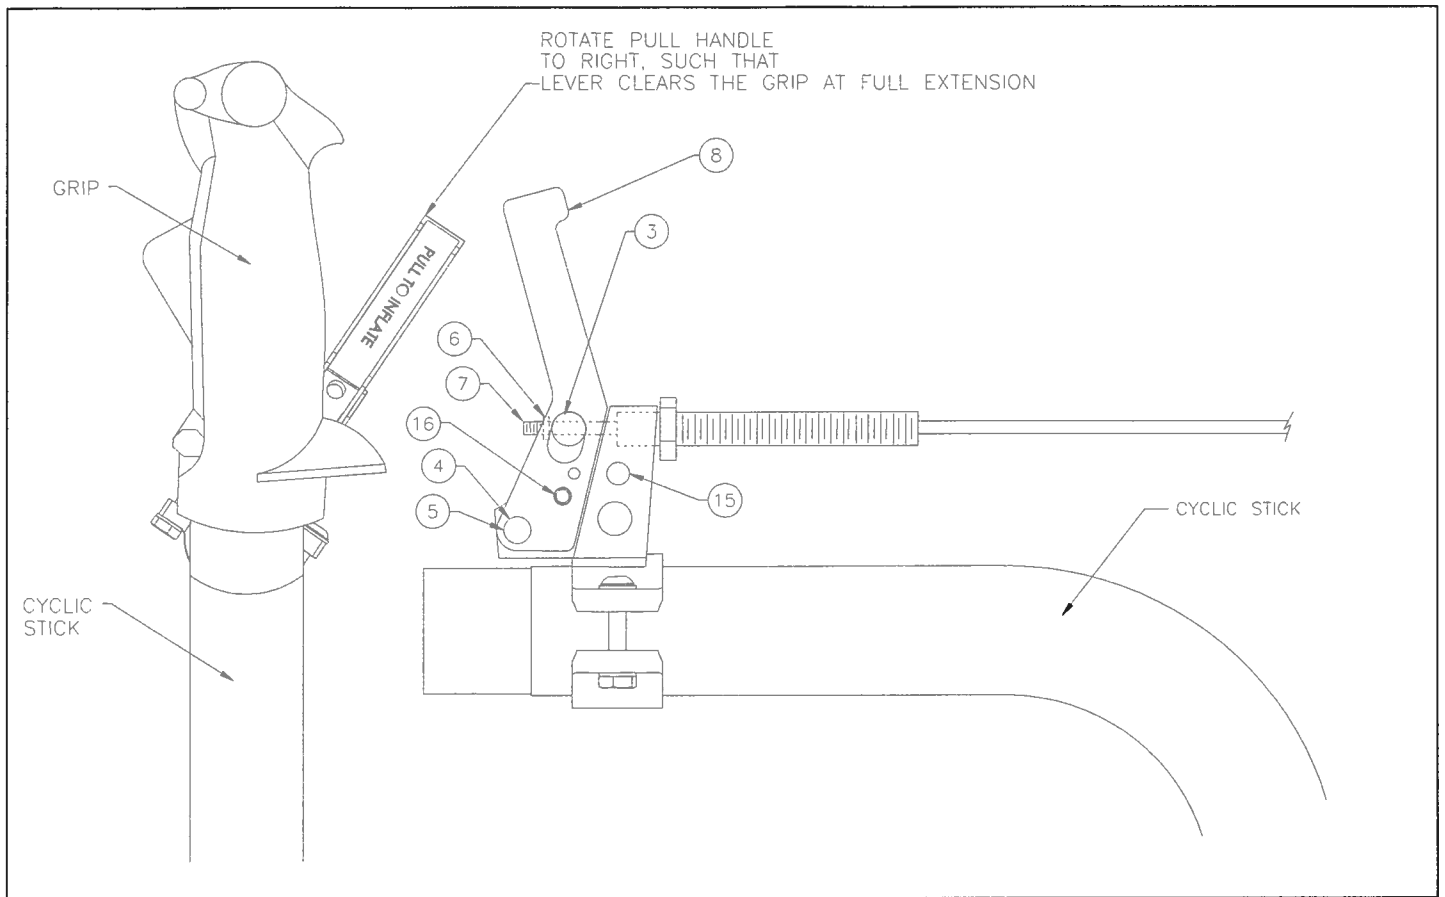
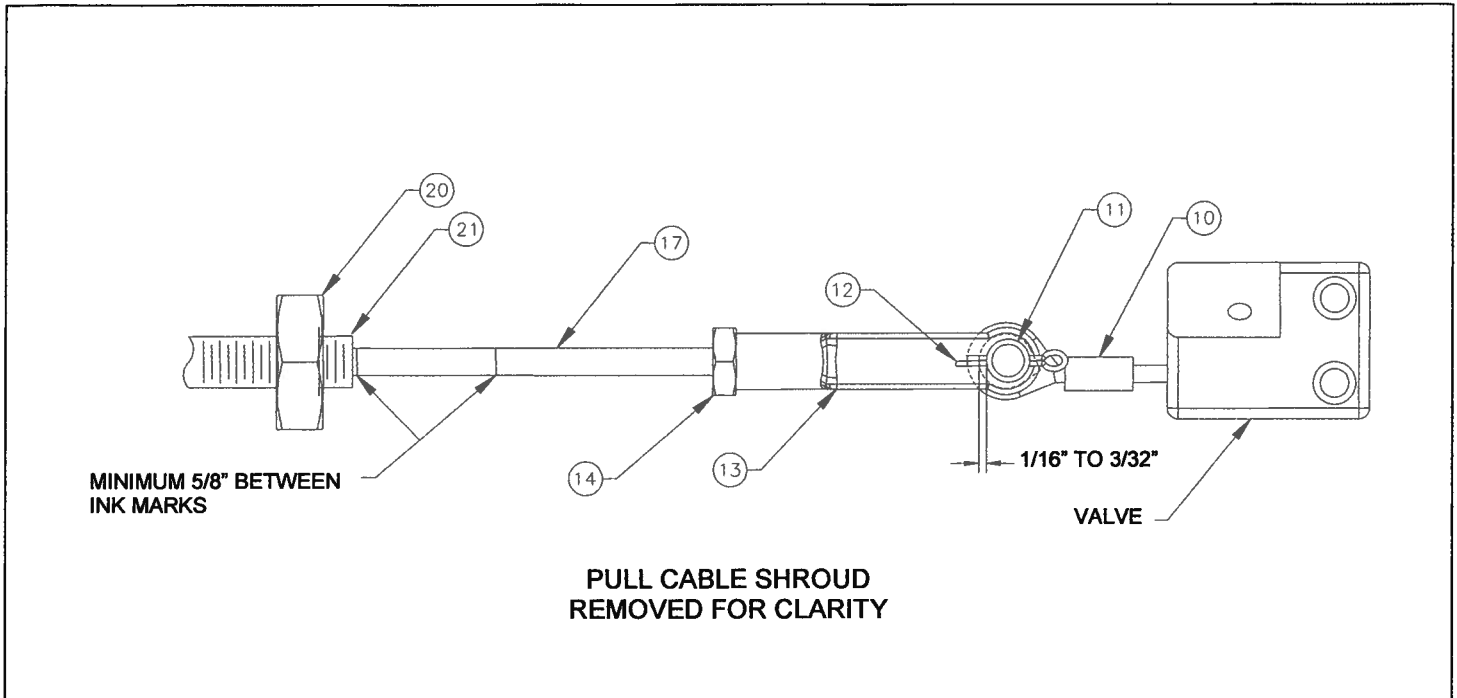

Figure 1
Figure 3
2. Place Safety Pin (16) into Handle (8) as shown in Figure 1.
3. Remove and retain the Cotter Pin (12) from the Clevis Pin (11) as shown in Figure 3. Remove and retain the Clevis Pin from the Pull Cable Loop (10).
4. Thread the Clevis (13) and Jam Nut (14) onto the Pull Cable Rod (17) until the end of the Pull Cable Rod's threads bottom out (Ref. Figures 3 & 4).
5. Thread the Rod Tube (3) and Jam Nut (6) onto the Cable Rod (7) until the end of the Cable Rod's threads bottom out. (Ref. SECTION II, HANDLE/CABLE RIGGING READJUSTMENT and Figure 1).
6. Ensure the handle clamp is positioned 3.0" from the end of the cyclic tube and rotate the Handle (8) to the right approximately 20° (Ref. Figures 1 & 2).
7. Ensure the Pull Cable Rod (17) with Clevis (13) is fully extended by lightly pulling on the Clevis (Ref. Figure 3).
8. Adjust the threaded Pull Cable Housing (21) and Jam Nut (20) such that there is very little play with the cable inside the Cable Shroud. Ensure that there is between 1/16" to 3/32" gap between the thru holes on the Clevis fork (13) and the end of the Pull Cable Loop (10).
This is the flexible pull cable in the valve that has a formed loop at the end that attaches to the Clevis fork (13) with a Clevis Pin (11) and Cotter Pin (12). (Ref. Figure 3)
9. There should be a minimum of three threads on the Pull Cable Housing (21) protruding past the Jam Nut (20). If not, please contact Aeronautical Accessories, Inc.
10. Place a mark with removable ink at the intersection of the Pull Cable Rod (17) and the Pull Cable Housing (21). (Ref. Figure 3)
At this point the Pull Cable Loop (10) should **NOT** be attached to the Pull Cable Clevis (13). (Ref. Figure 3)
11. Remove the Safety Pin (16) on the Handle **ONLY**.
12. Pull the Handle (8) to its full extension, ensuring that no part of the handle is impeded by the cyclic grip or any other component. If the handle does not reach its full extension freely, rotate the handle further to the right until it clears all obstacles. (Ref. Figures 1 and 2)
13. With the Handle pulled to its full extension, place a mark with removable ink at the intersection of the Pull Cable Rod (17) and the Pull Cable Housing (21). (Ref. Figure 3).
15. Measure the distance between the marks made in Steps 10 and 13. There should be a minimum of 5/8" distance between the marks (Ref. Figure 3). If the distance is less than 5/8", there still may be too much play in the cable or the handle may be impeded in its current location. Repeat steps 3 thru 14 until a minimum of 5/8" between the marks is seen.
16. Reinstall the previously removed Clevis Pin (11) and Cotter Pin (12). (Ref. Figure 3).
17. Ensure there is no tension on the Pull Cable Loop (10). (Ref. Figure 3)
With the float reservoirs still safety pinned, rotate the cyclic stick full forward and full back. This should be done with two people, one person watching the Clevis (13) to see if it pulls any tension on the Pull Cable (10). (Ref. Figure 3)
1. Remove and retain the Jam Nut (6) from the Pull Cable Rod (7). (Ref. Figure 1).
2. Remove and retain the Cotter Pin (5) and Pivot Pin (4). Remove the Handle (8) by rotating the Rod Tube (3) to a vertical position. Rotate the Rod Tube (3) clockwise, reposition the Handle and insert Pivot Pin. Once the Handle is repositioned, lightly push the Pull Cable in until it stops.
3. Remove and retain the Cotter Pin (12) from the Clevis Pin (11) as shown in Figure 3. Remove the Clevis Pin from the Pull Cable Loop (10).
4. Ensure the Pull Cable Rod (17) with Clevis (13) is fully extended by lightly pulling on the Clevis (Ref. Figure 3).
8. Reinstall Clevis Pin (11) and Cotter Pin (12). (Ref. Figure 1)
With the float reservoir still safety pinned, rotate the cyclic stick full forward and full back. This should be done with two people, one person watching the Clevis (13) to see if it pulls any tension on the Pull Cable (10). (Ref. Figure 3)